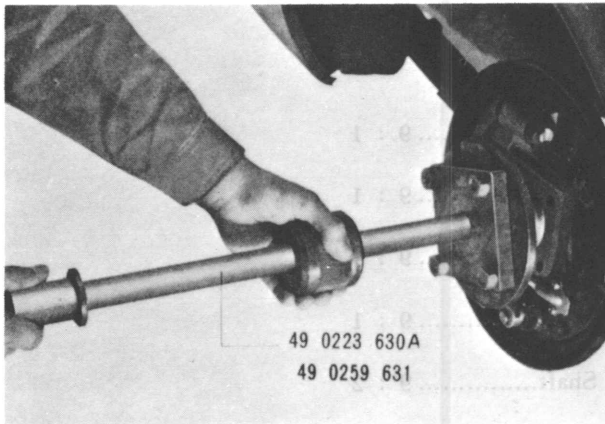

Fig. 9-1 Extracting rear axle shaft
0253 630A), as shown in Fig. 9-1.
4. Remove the backing plate securing nuts and extract the axle shaft by using a **Puller** (49 0259 631 and 49 0223 630A), as shown in Fig. 9-1.